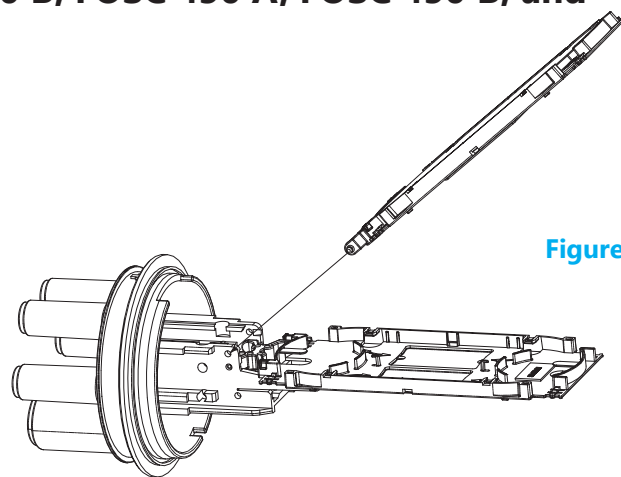

Figure 1
4.1.2. Install the hinged tray into the tray holder bracket of the closure. (Figure 1)